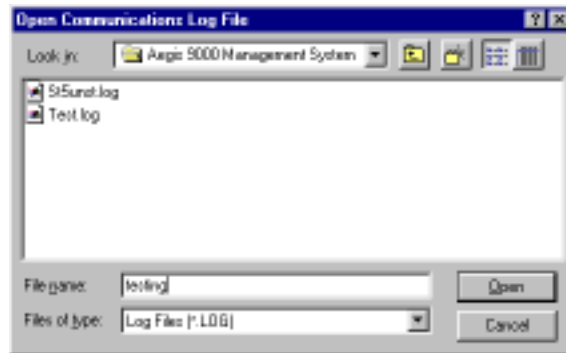

Figure 7.2
Step 2 Click on "**File**" and Click on "**Open Log File**", you will see figure 7.2.